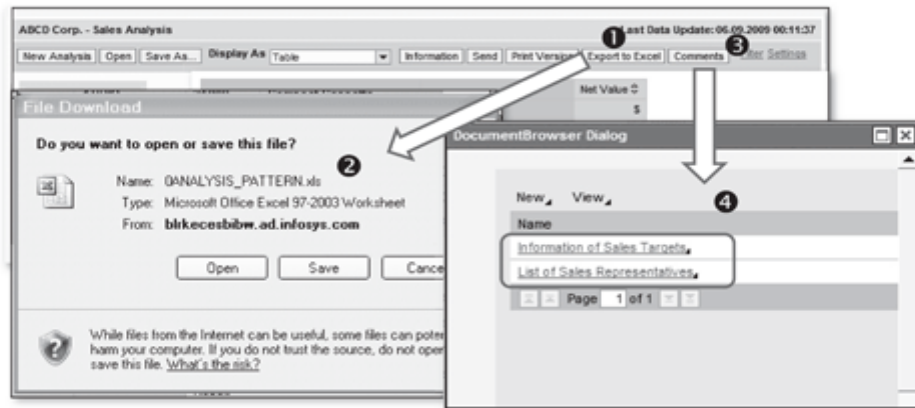

Figure 10.47 BEx Web Analyzer Function – Export to Excel and Comments
- **Export to Excel:** Use this function (❶ of Figure 10.47) to download the analysis in Excel (❷).
- **Comments:** You can create or maintain comments/documents for the data provider using the Comments function button (❸ of Figure 10.47). All of the existing documents created on the data provider are displayed for view and editing (❹).